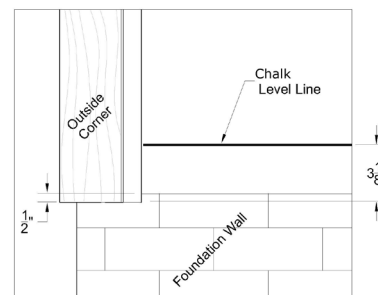

Figure 2
- Measure & chalk a level line 3-1/8" up from the lowest point of the wall (Figure 2).